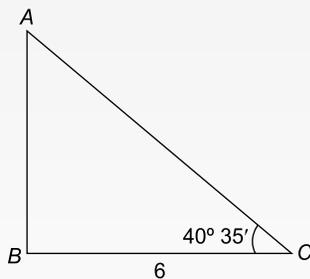

Figure RT1.3
- In triangle  $ABC$  in Figure RT1.3, find lengths  $AB$  and  $AC$ , correct to 2 decimal places